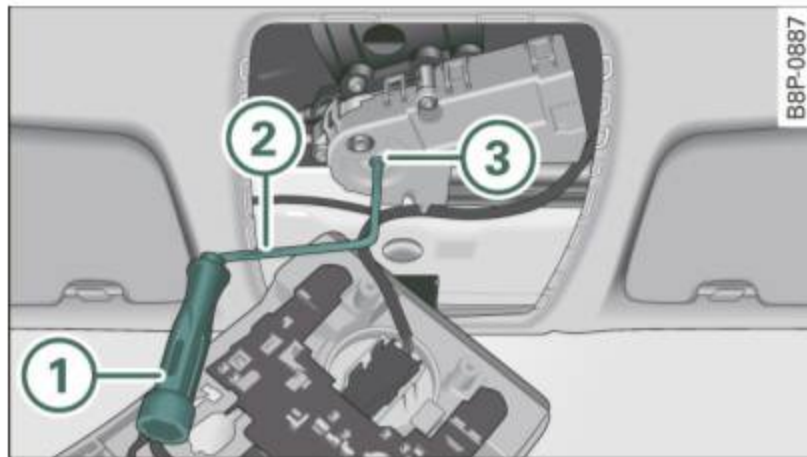

Fig. 65 Light unit in the headliner: crank for emergency operation
- Push the long end of the crank ② ⇒ fig. 65 all the way into the hexagonal hole ③.